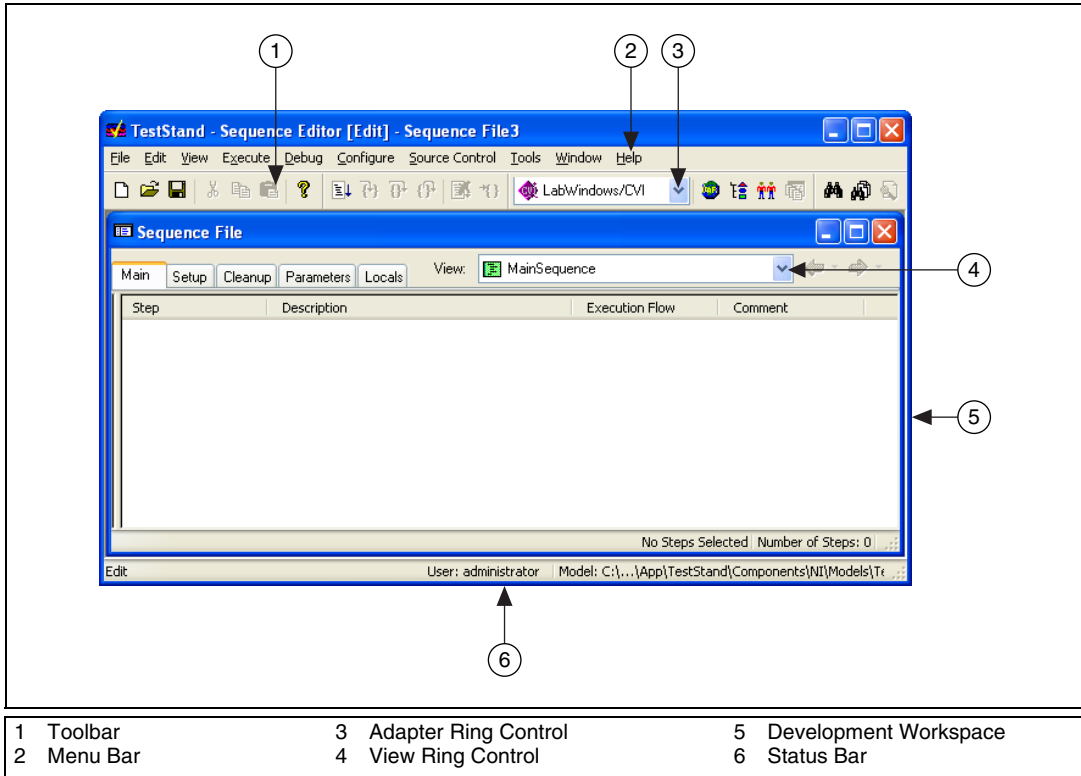

Figure 4-2. Sequence Editor Window
3. Click **OK** to begin. You should now see the Sequence Editor window, as shown in Figure 4-2.